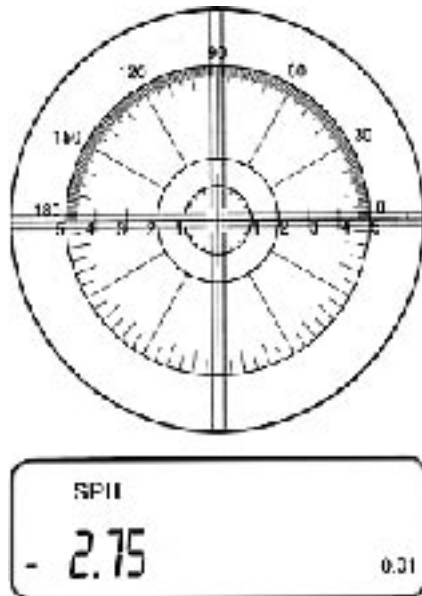

Fig. 10
2. Lightly move lens so that drone is at center of eyepiece visual field. Then finely regulate diopter measuring hand wheel to obtain clearest focus of drone. At this time, the number on the liquid crystal display screen is just the spherical diopter of this lens (Fig. 10).